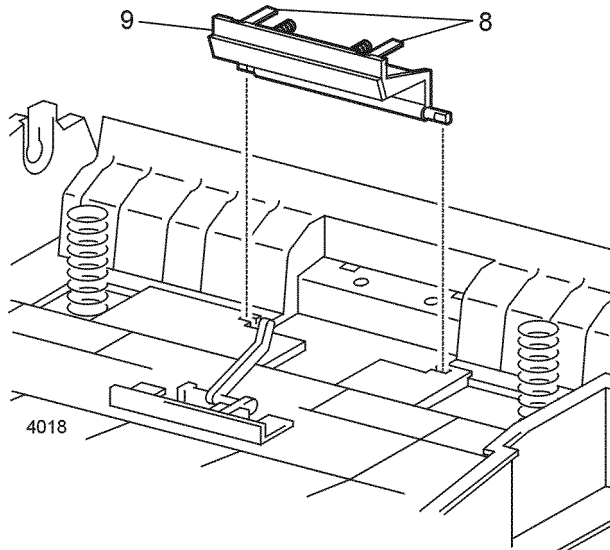

Figure 3 MBF Retard Holder Assembly
8. Release the two locking tabs on the back of the retard holder and rotate the retard holder forward (Figure 3).
9. Continue to rotate the holder forward until it can be lifted out of the MBF base (Figure 3).